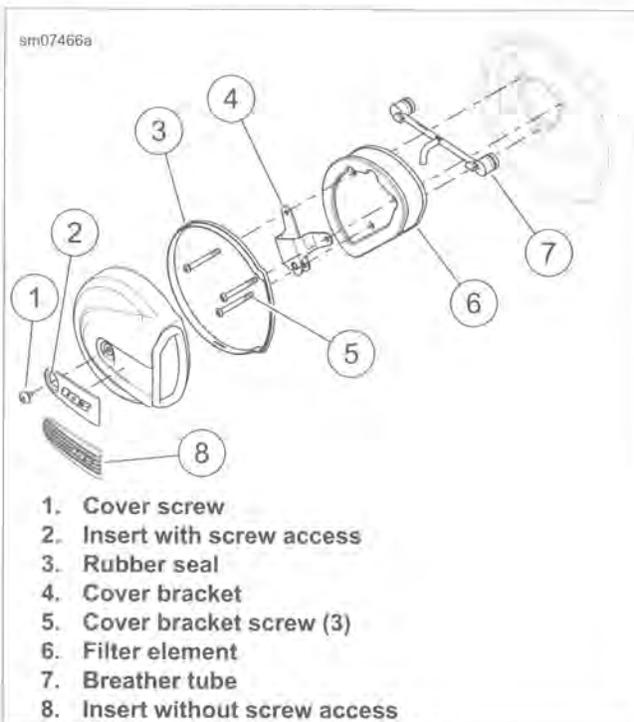

Figure 1-5. Air Cleaner Assembly
1. **Models without screw access:** See Figure 1-5. Pull on front edge of insert (8) to remove.
1. See Figure 1-5. Install breather tube (7) onto breather bolts.
4. Install cover bracket. Tighten screws (5) to 108-132 in-lbs (12.2-14.9 Nm).
5. Verify that rubber seal (3) is not damaged and is properly seated around perimeter of air cleaner cover.
6. Place air cleaner cover onto backplate. Apply LOCTITE 243 MEDIUM STRENGTH THREADLOCKER AND SEALANT (blue) to threads of screw (1). Install screw. Tighten to 36-60 in-lbs (4.1-6.8 Nm).
7. **Models without screw access:** Secure insert (8).